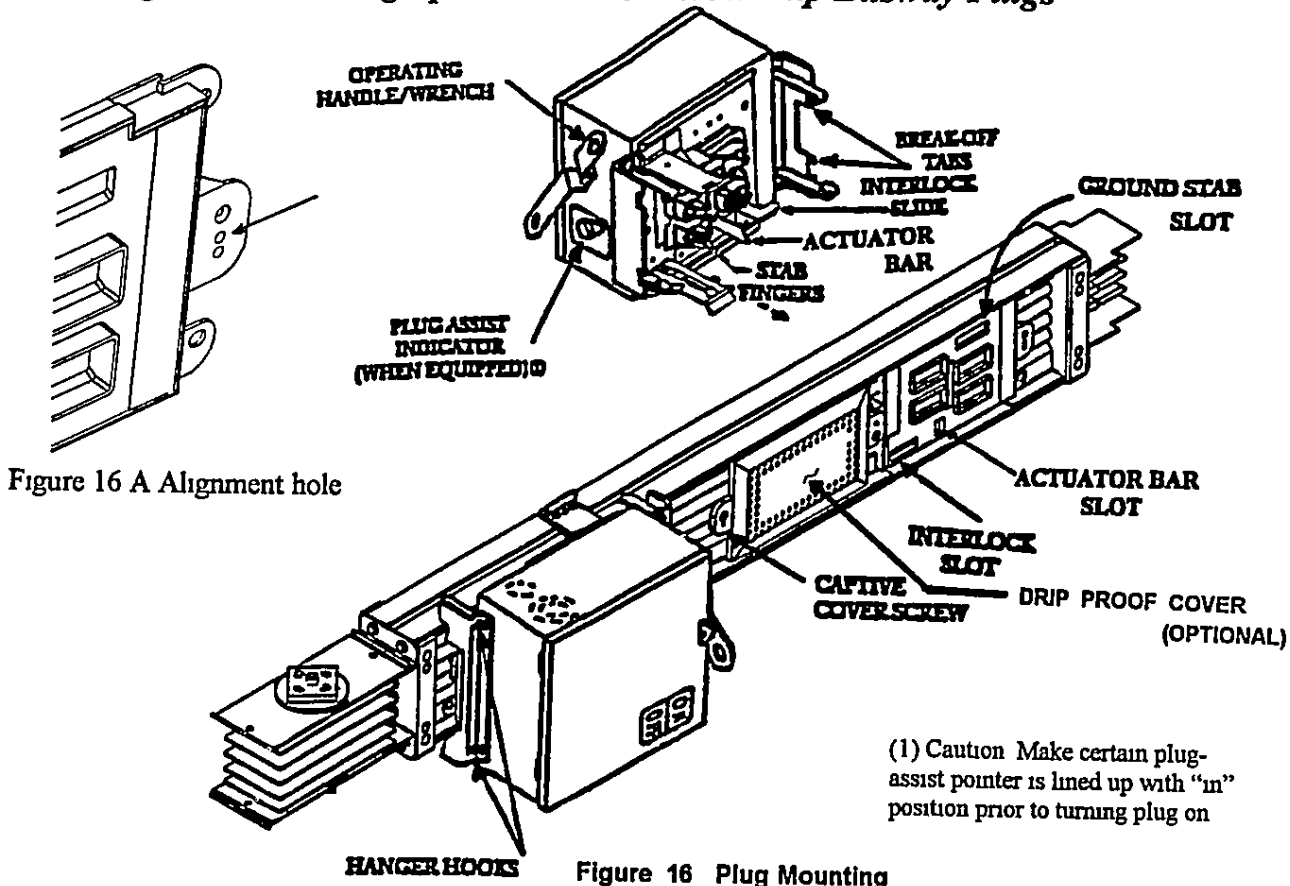

Figure 16 Plug Mounting
- To install a plug where the rear plug hanger interferes with a joint cap, it is necessary to remove the "break-off tabs", see Figure 16
To Install Plug Not Equipped with Plug-Assist (Figure 16)
To Install Plug Equipped with Plug-Assist (Figure 16)